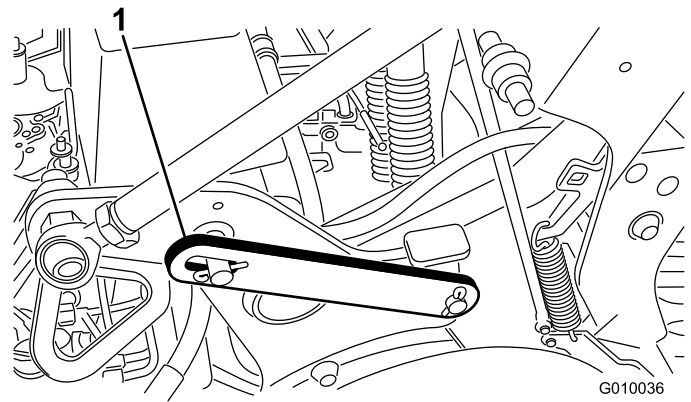

Figure 20
2. Remove the clip ring securing the service latch in the storage position (Figure 20).